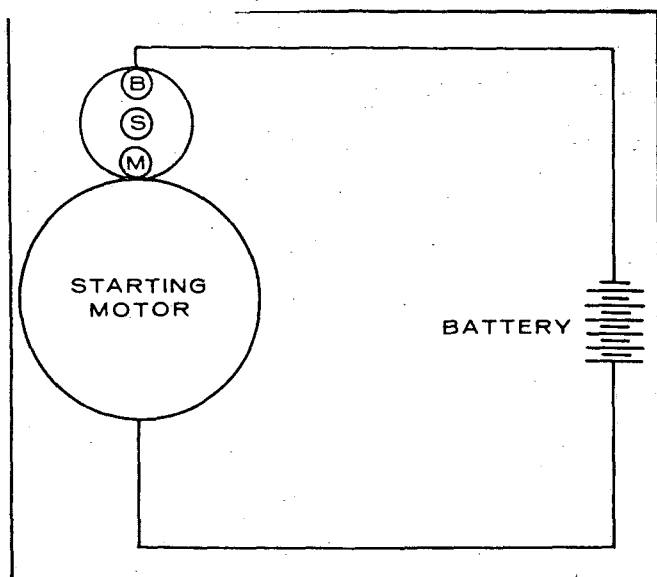
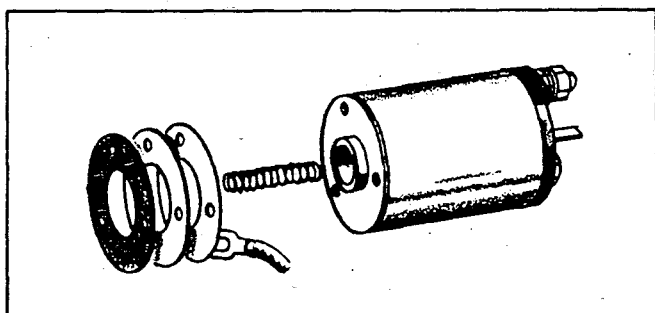

FIGURE 32. BATTERY CONNECTIONS
FIGURE 33. ADJUSTING PINION CLEARANCE
2. To adjust pinion clearance, connect the battery to the starting motor as shown in Figure 32. This will allow the pinion of the starting motor to slide and stop. In this state, measure the clearance between the end of the pinion and pinion stop when the pinion is pushed lightly toward the commutator end. Clearance should be .02 " to .06 ". Adjust for proper clearance by removing the magnetic switch attaching screws and select the proper thickness of the fiber packings shown in Figure 33.